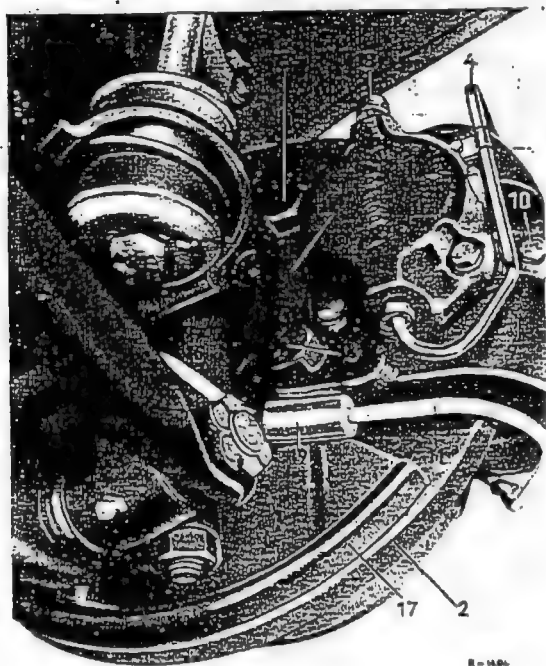

Fig. 42-7/8
- a) The brake caliper must be installed parallel to the brake disk. The distance between caliper and brake disk (aperture a) measured on the inner side of the brake disk must not differ between top and bottom measurements by more than the amount given in Job No. 42-0 (Figs. 42-7/11 to 42-7/14).
b) The brake caliper must be installed in such a way that the aperture (a) is as nearly the same as possible on the inside and the outside of the caliper (see Job. No. 42-0 and Figs. 42-7/11 to 42-7/14).